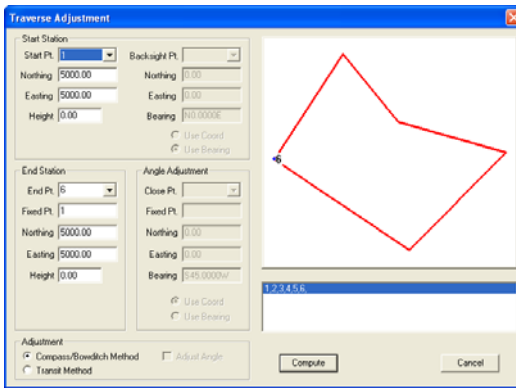

Figure 12-13. Traverse Adjustment Dialog Box
2. Select a source or enter coordinates, and then click **OK**. The *Traverse Adjustment* dialog box appears (Figure 12-13).